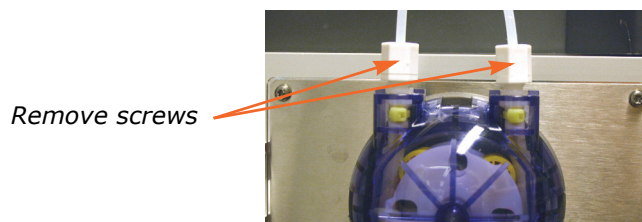

Figure 4-11. Remove the Inlet and Outlet Tubing
- Remove the inlet and outlet tubing by removing the two screws; see Figure 4-11.